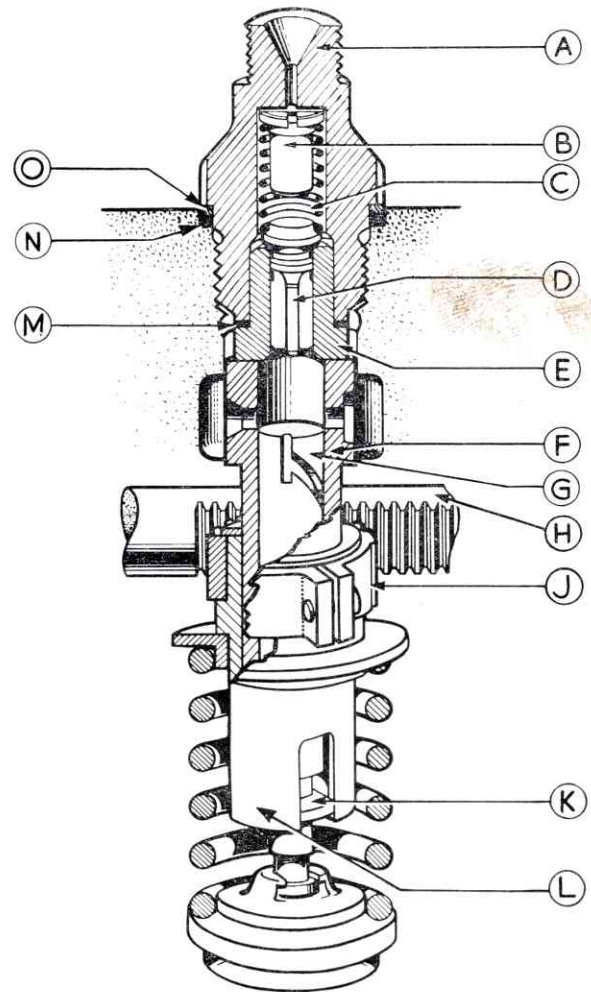

FIG. 77. THE PUMPING ELEMENT ASSEMBLY
The lower end of the plunger (G), Fig. 77, carries a lug, or toe (K). This engages in a slot in the skirt of the control quadrant (L). Around its upper flange, the quadrant is machined to form gear teeth, and these engage with similar teeth on the control rack (H), the latter running the length of the pump and engaging the quadrant of each pumping element. Thus movement of the rack causes all the plungers to rotate in unison and selects the position of the helices corresponding to the fuel delivery required.
The delivery valve seating is held against the top of the element barrel (F), Fig. 77, both faces of this joint being lapped flat. The seating is held down by the delivery valve holder (A) which is screwed in to the pump body, a washer (M) being inserted between the valve seating (E) and the holder (A), to prevent leakage of high-pressure oil down the inside of the holder. Leakage of oil at low pressure up the threads in the pump body is prevented by a synthetic rubber seal ring (N), with a steel slip washer (O), which is trapped in a counterbore in the pump body by the delivery valve holder.